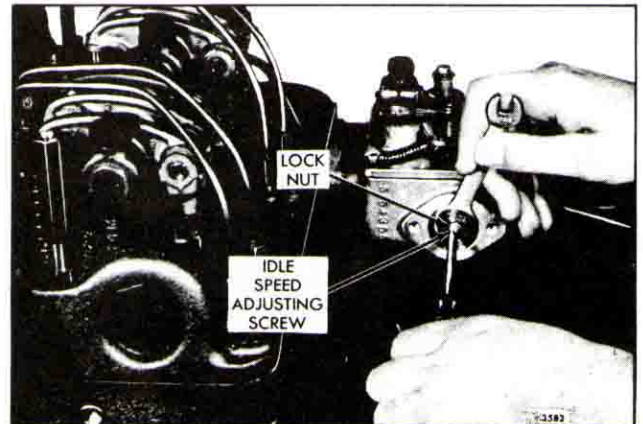

Fig. 14 - Adjusting Engine Low Speed
2. With the engine operating and the speed control lever in the idle position, loosen the idle speed adjusting screw, Fig. 14, and turn the idle screw to obtain the recommended idle speed.
1. Refer to Fig. 14 and loosen the lock nut on the low speed adjusting screw.
2. With the engine operating, loosen the lock nut (Fig. 14). Turn the low speed adjusting screw until the engine runs at the recommended speed. Hold the screw and tighten the lock nut.